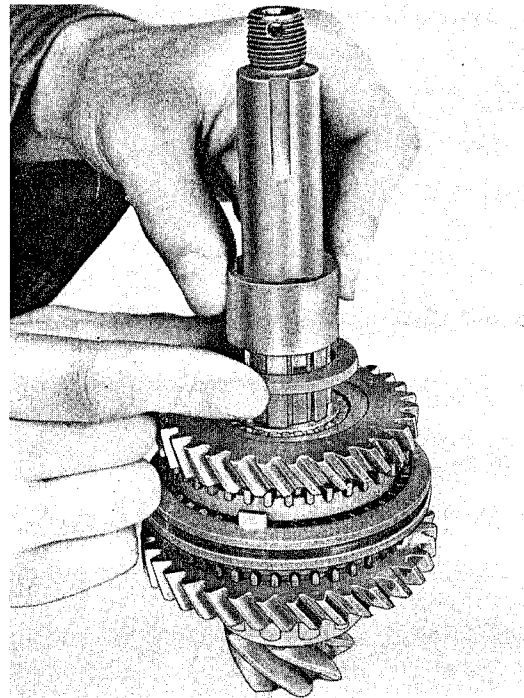

Fig. 64
9. Install thrust washer (Fig. 64).
10. Install splined needle bearing sleeve for 3rd gear (24 mm, .945 in. wide) (Fig. 64).